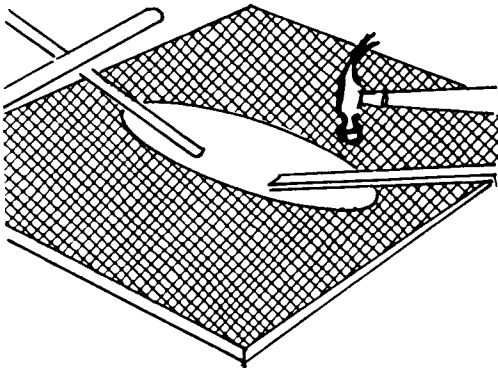

FIGURE 11. REMOVING THE BOWL CORE.
12. Turn the slab form over on a wooden stand and use simple levers to remove the bowl core. You must remove the bowl core before the trap core. See Figure 11.